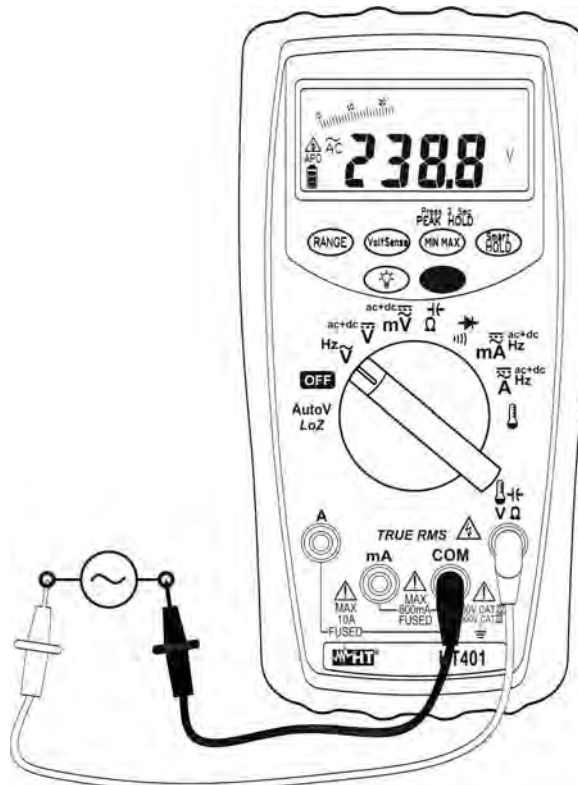

Fig. 3: AC voltage measurement
4. Insert the red cable into input lead $\tilde{V}\Omega$ and the black cable into input lead **COM** (see Fig. 3)